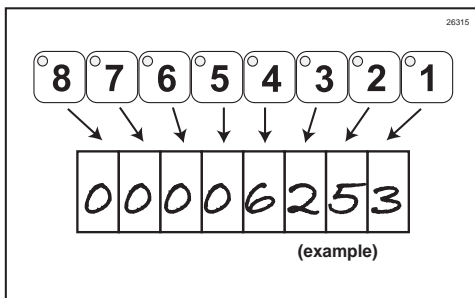

Figure 173
3. Select #2, count the bars, and record it as the second to last digit in the serving count. Continue this process for keys #3-8. (See Figure 173.)